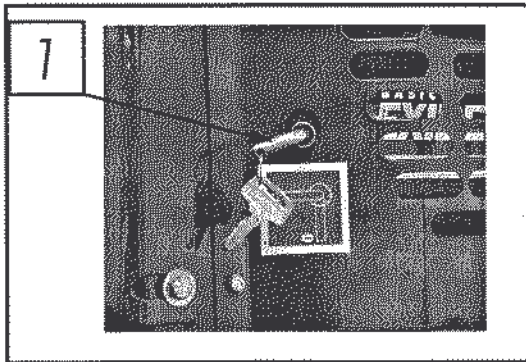

Figure 10-1. Main switch
2. Switch on the current from the main switch 1 (figure 10-1) and remove the key from the main switch. Also remove the key from the ignition lock of the ground guiding point. Use only one set of keys.